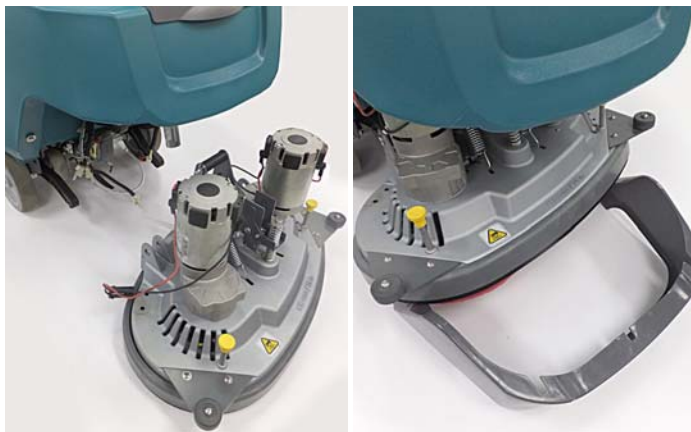

Fig. 36
2. Re-install the scrub head on machine (Figure 36).